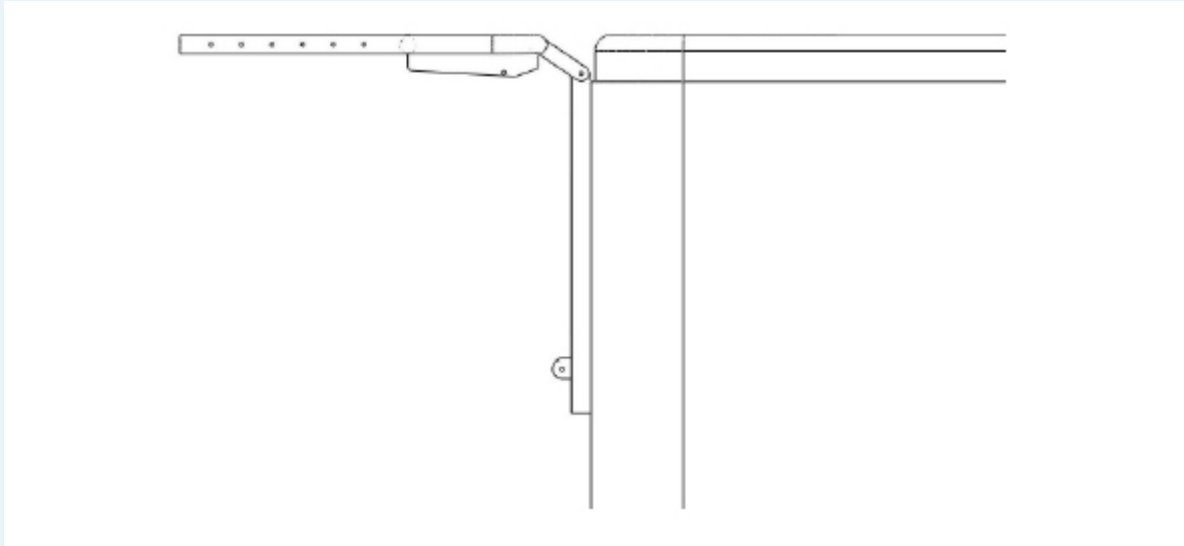

Figure 6
- 6 Align the Main Unit assembly in the center of the spa. Line up the Pivot Arm as shown in Fig 6. Mark the screw holes.